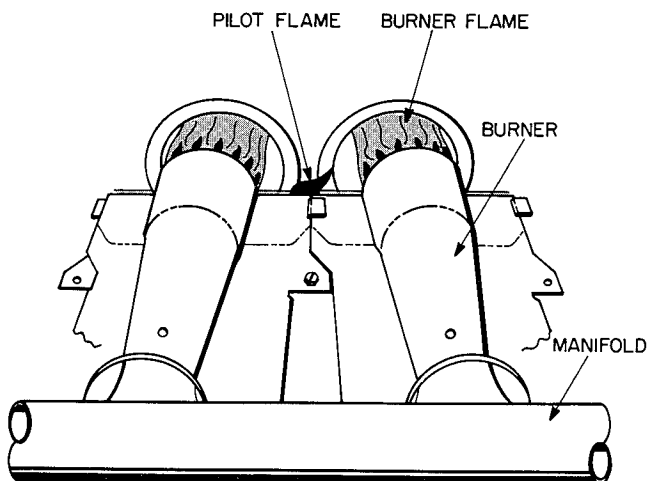

Fig. 5—Pilot and Burner Flame
4. Look through sight glass in burner enclosure and check burner and pilot flame. The main burner flame should be clear blue, almost transparent. The pilot flame should be well defined. See Fig. 5. To operate the furnace in low heat reset the power and energize the thermostat, low heat will last for 6 minutes which should be sufficient time to obtain the amp draw readings.